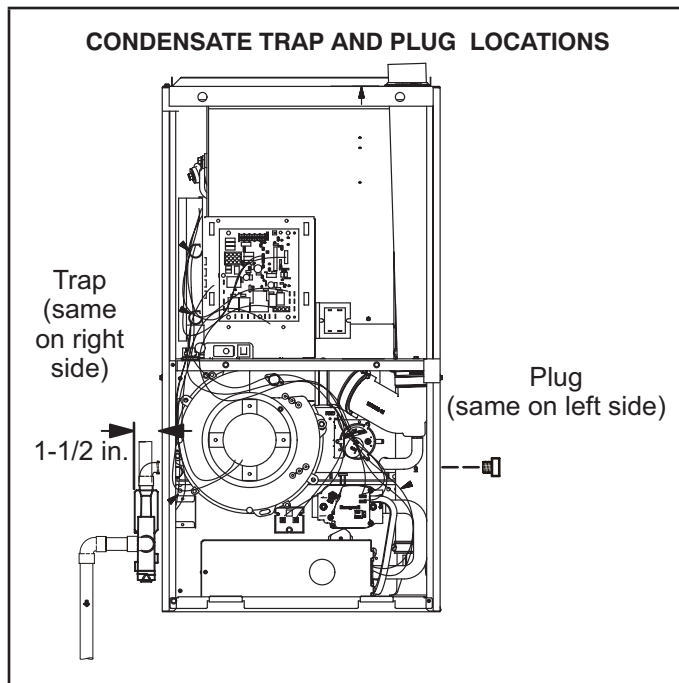

Figure 43
This unit is designed for either right- or left-side exit of condensate piping. Refer to Figure 43 for condensate trap locations.
- 2 - Use a large flat head screw driver or a 1/2" drive socket extension and remove plug (Figure 43) from the cold end header box at the appropriate location on the side of the unit. Install provided 3/4 NPT street elbow fitting into cold end header box. Use Teflon tape or appropriate pipe dope.